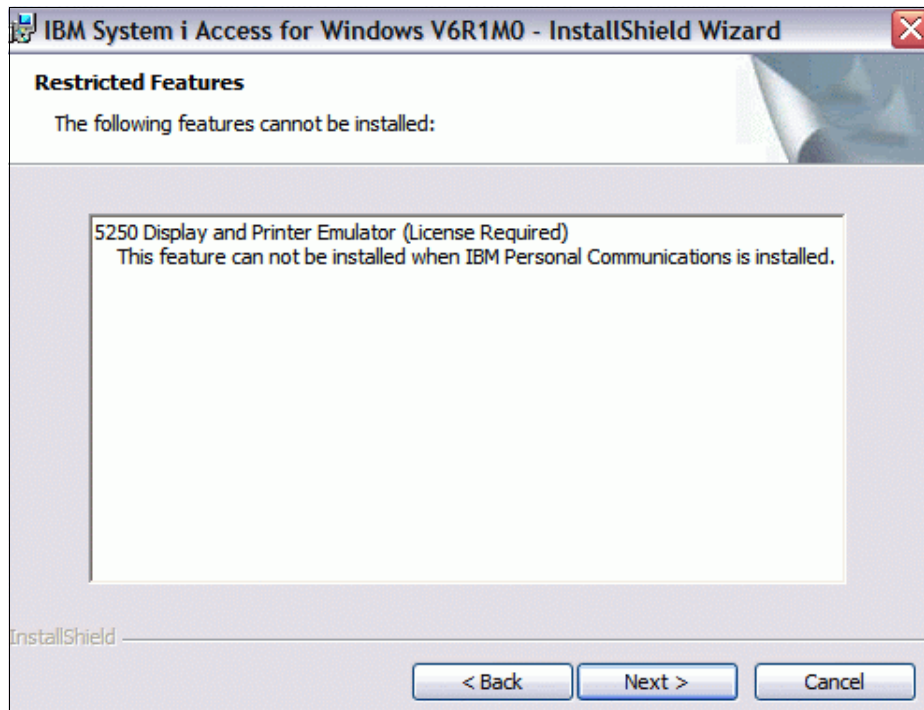

Figure 7-16 IBM System i Access for Windows Restricted Features
8. Some features require a license agreement to use their functionality, as shown in Figure 7-16 on page 267. Ask your service representative to receive a valid license key.